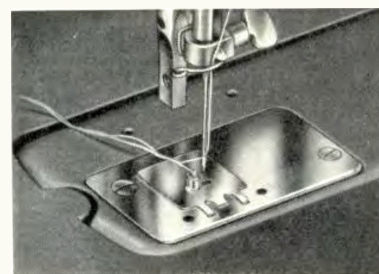

Fig. 44.
- Select eyelet embroidery cover plate with center stud matching the desired size of eyelet (1/8", 3/16" or 7/32" diameter, fig. 44) and place it on the needle plate.